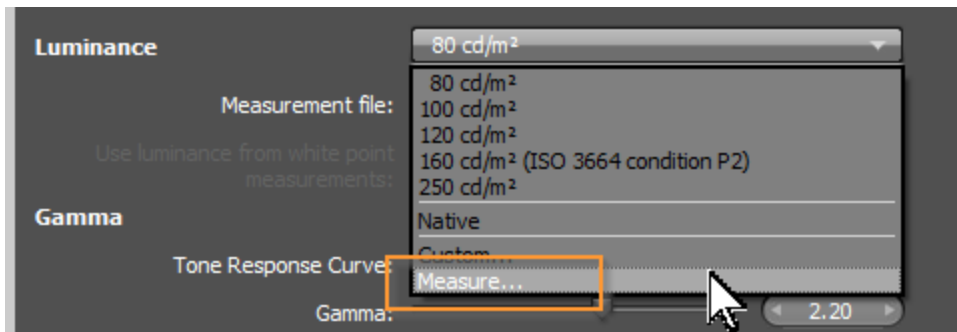

Figure 4 Luminance -> Measure
3. Under "Luminance", select "Measure" (Figure 4).